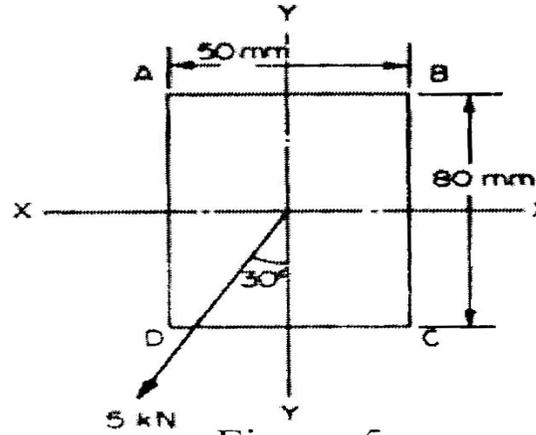

Figure 5
19. A Rectangular-section beam  $80 \text{ mm} \times 50 \text{ mm}$  is arranged as a cantilever  $1.3 \text{ m}$  long and loaded at its free end with a load of  $5 \text{ kN}$  inclined at an angle of  $30^\circ$  to the vertical as shown in Figure 5. Determine the position and magnitude of the greatest tensile